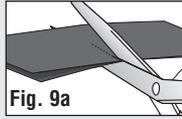

Fig. 9a
- Lay the two sheets on top of each other and cut a notch halfway up both sheets (**Fig. 9a**).